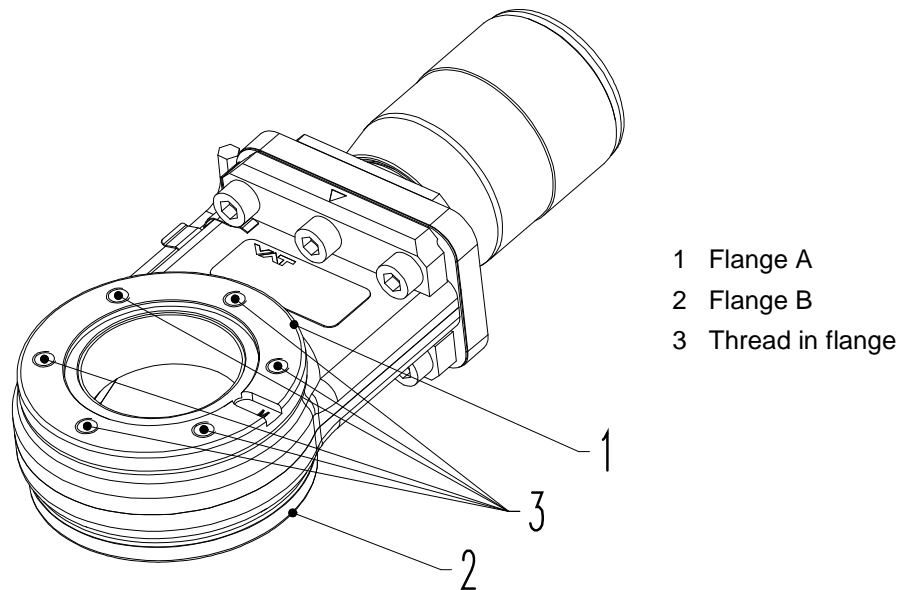

Figure 4-1
see (1) and (2) according to «Figure 4-1» on page 10.
4. Mount the 6 screws (or clamping ring) according to «Figure 4-1» on page 10, evenly in crosswise order until the seal touches the sealing surface.